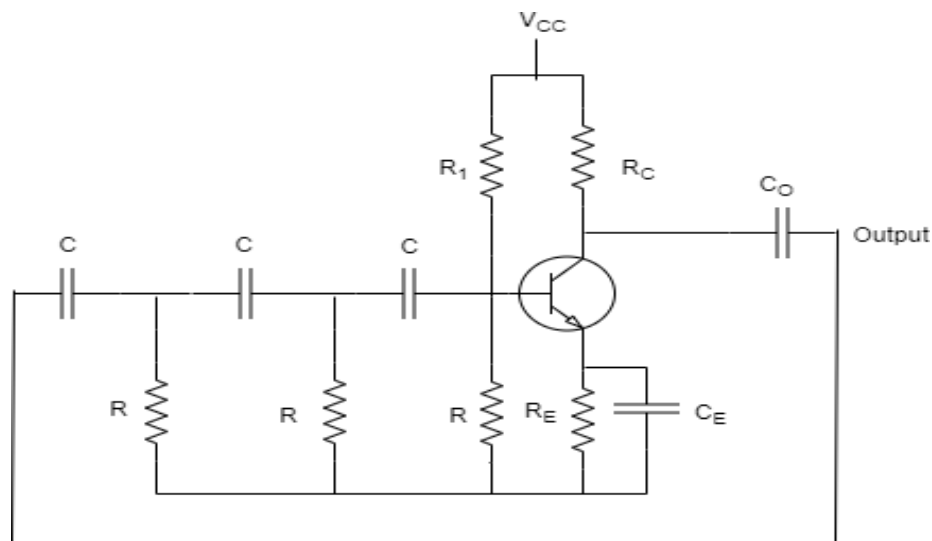

Figure 6.1: RC Phase shift oscillator
6.1 Design an RC phase oscillator with Resistance $R_1=R_C=10\text{K}\Omega$, $R_E=1\text{ K}\Omega$, $R=10\text{ K}\Omega$, $C_E=C_C=1\mu\text{F}$ and $C=10\mu\text{F}$ for the circuit shown in figure.6.1 and determine the frequency of oscillation of the circuit.